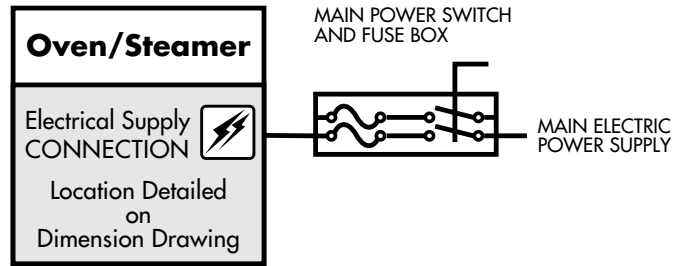

Figure 2-5. Recommended Electrical Layout
Figure 2-5 illustrates an electrical layout recommended by the Manufacturer.
- 3- Turn off the electrical power to the unit at the main power switch (Refer to figure 2-5, Recommended Electrical Layout).
- 6- Install the access panel removed at step (4).